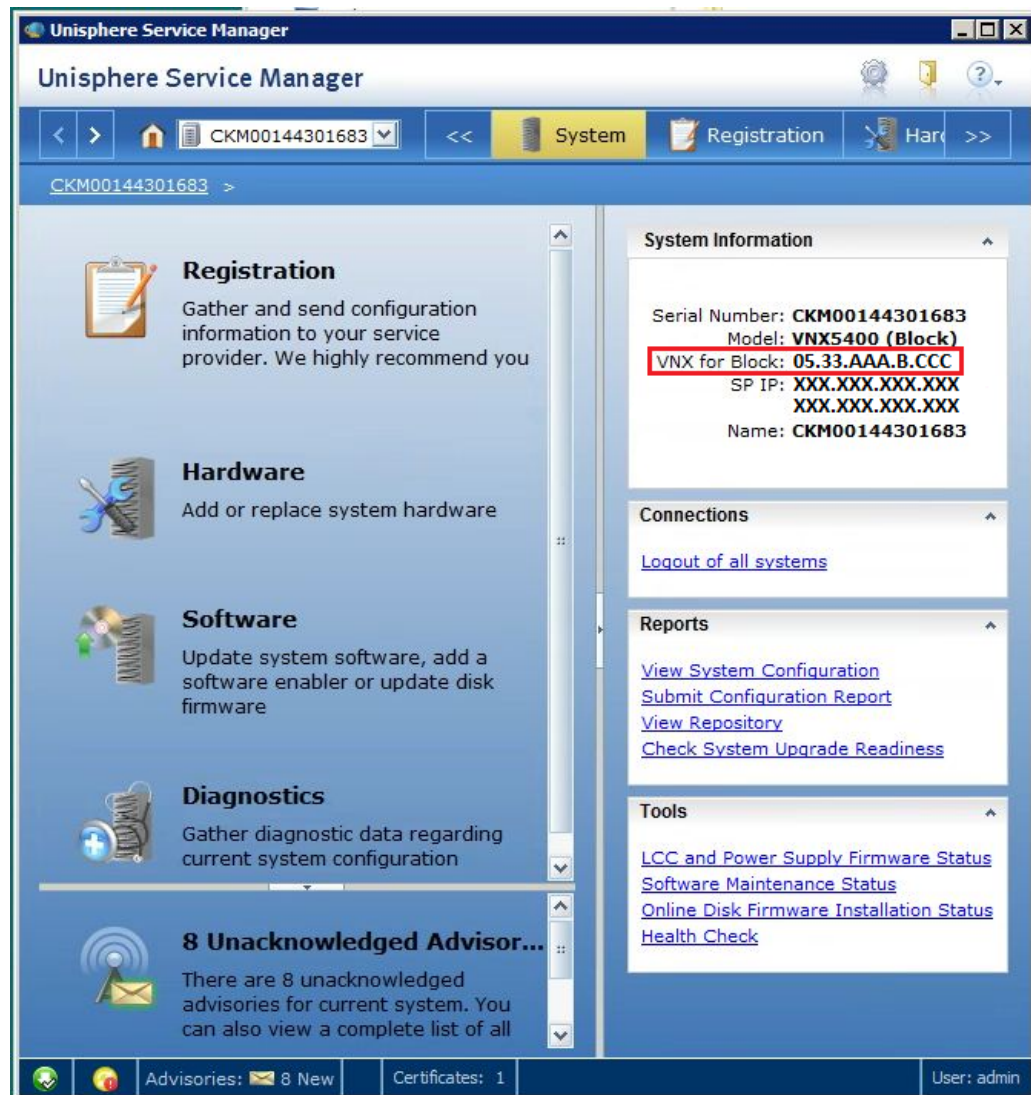

Figure 5 VNX For Block Firmware Version
1. While still being connected through USM, inspect the version of the currently installed firmware of “VNX for Block:” under **System Information**. The version level is indicated as “AAA.B.CCC” as shown in Figure 5.